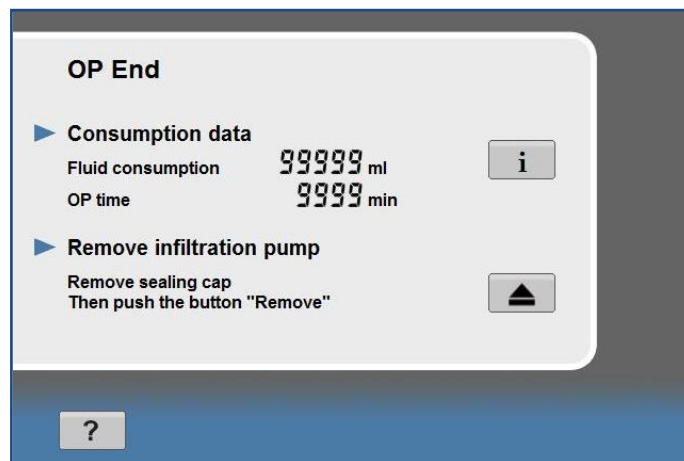

Fig. 5-16: Screen „OP End“
- By pushing the “Yes” button you will call up the screen “OP End” (Fig. 5-16). The OP cannot be continued any longer.